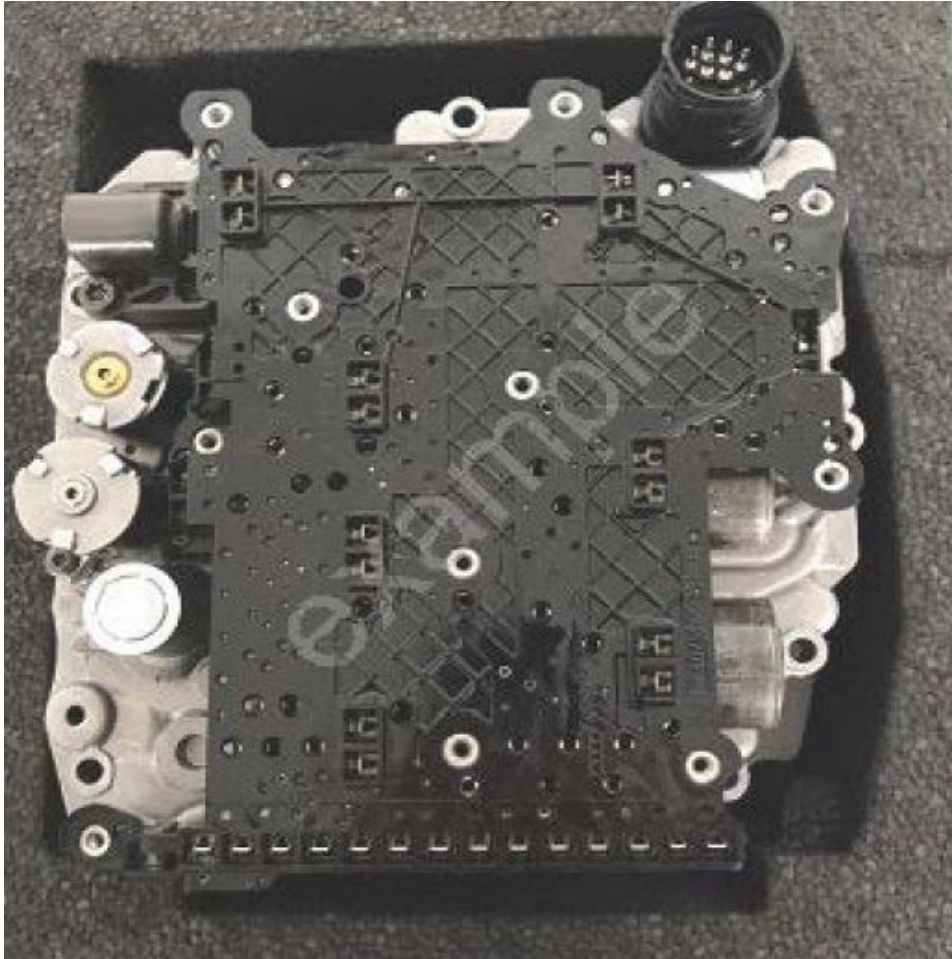

Figure 10. Mechatronics unit in the assembly aid.
15. After removing the mechatronic unit, place it in the assembly aid to protect the sensors. The assembly aid comes with the new control unit. First take the control unit out of the assembly aid and store it safely in the packaging. Place the mechatronic unit in the assembly aid (Figure 10) with sensors facing downwards.